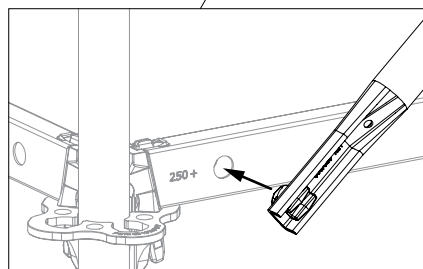

Fig. B1.06b
6. Insert Ledger Brace UBL (11) with the lower finger in the bottom Ledger UH (3). (Fig. B1.06b + B1.06c)